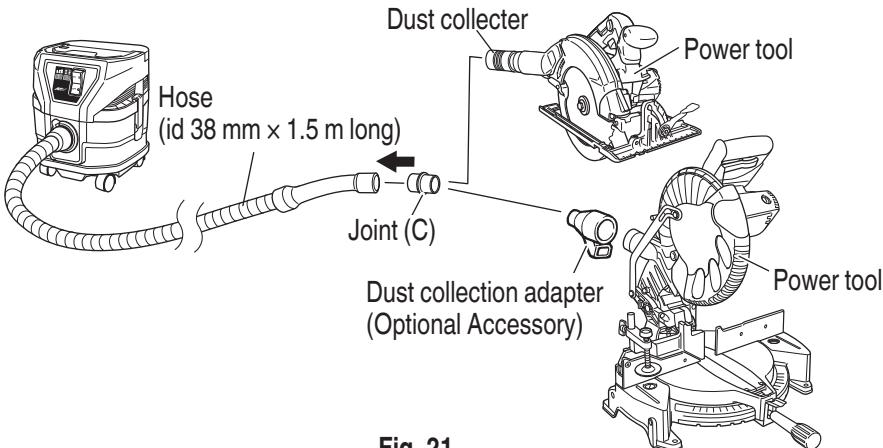

Fig. 21
Connect in order of Hose (id 38 mm x 1.5 m long) and Joint (C) (Optional Accessory). Connection is done by pressing in the direction of the arrow. (see Fig. 21)